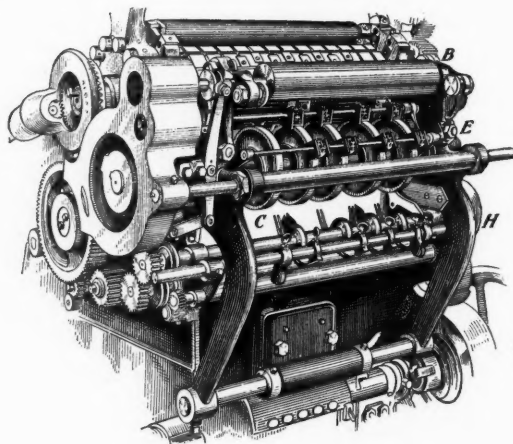

FIG. 1.
The automatic press is admirably adapted to that class of work which requires printing in one or two colors, numbering in duplicate and perforating. Such a machine, with auxiliary attachments, is shown in Fig. 1. It consists of an impression cylinder (C), a plate cylinder (B), a numbering-head cylinder, with five discs (E), and a perforator, located near the point H. The num-
exactly alike. There is a difference in both the number and the lengths of the rows of seats. Every house contains its series of long and short rows, which necessitates consecutive numbering up to some arbitrary figure. Then the numbering device must be reversed to figure 1, and this